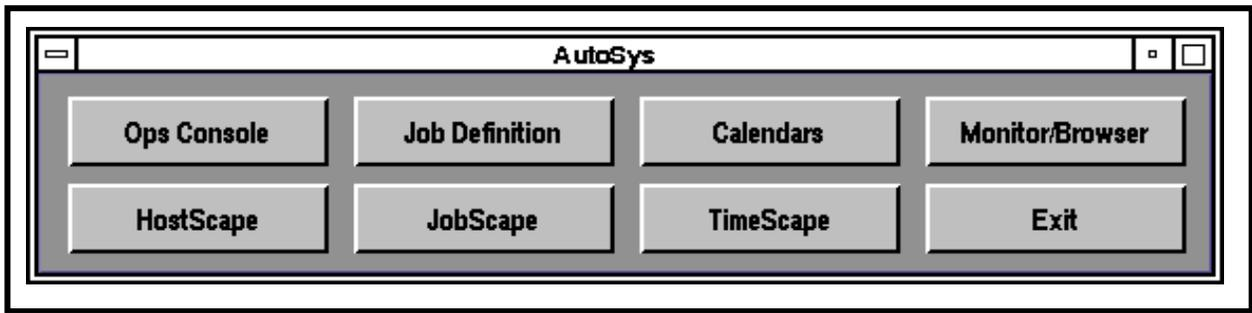

Figure 53. AutoSys GUI Control Panel
- The **AutoSys GUI Control Panel** (Figure 53) is displayed.
The procedure for selecting jobs to be displayed on AutoSys displays assumes that AutoSys has been launched and the **AutoSys GUI Control Panel** (Figure 53) is being displayed.